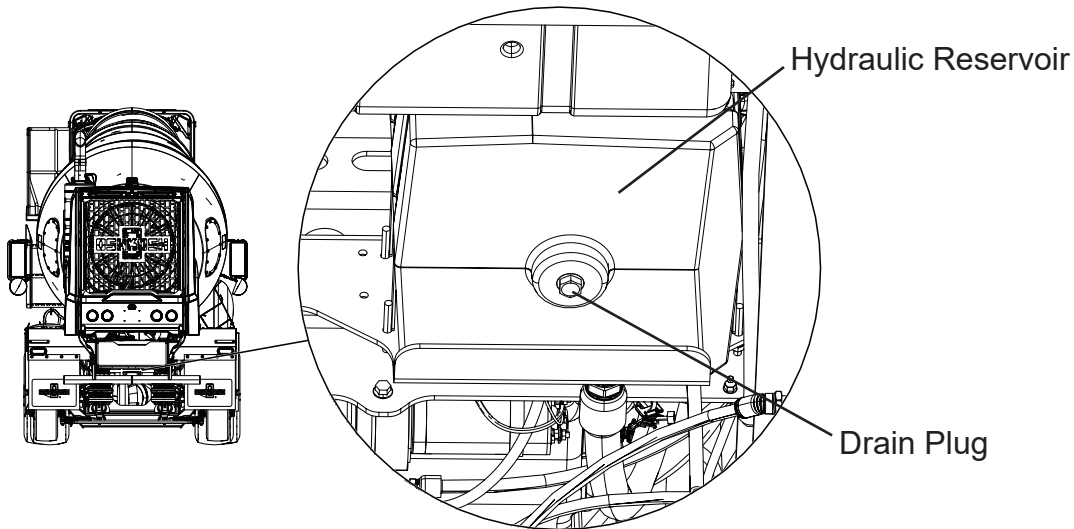

Figure 11 - Hydraulic Reservoir Drain
16. Loosen and remove the 7/8" drain plug from the bottom of the hydraulic reservoir and drain all hydraulic oil from the reservoir, see Figure 11.